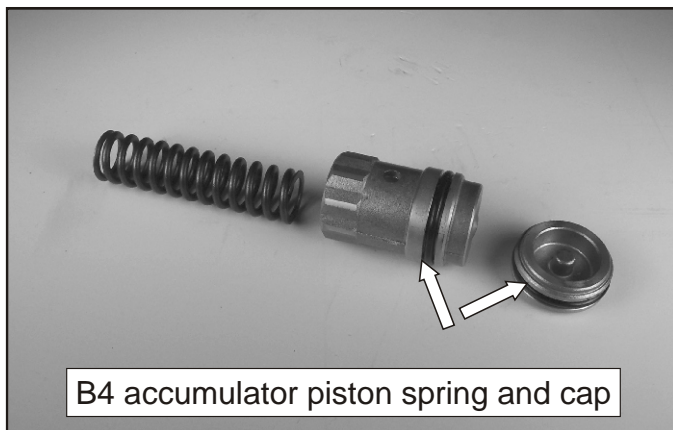

Figure 264
- 191. Install new o-rings on the B4 accumulator cap and piston as shown in Figure 264.